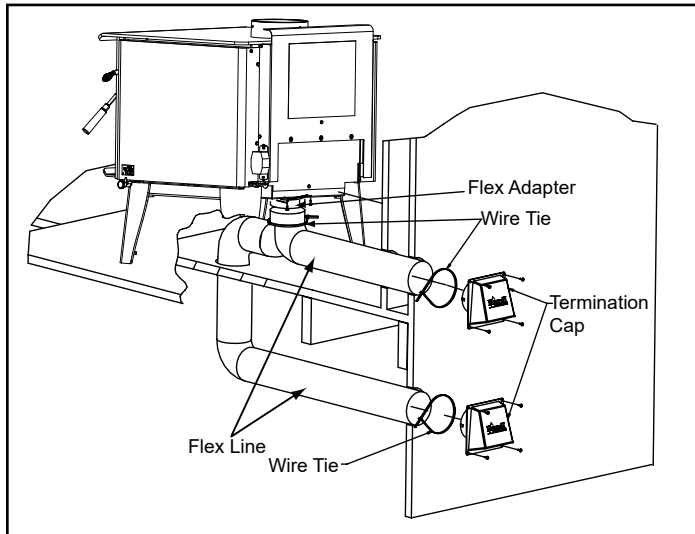

Figure 16.1 - Floor & Rear Installation
2. Using a #2 Phillips screw driver attach the flex adapter to the appliance using 4 screws (**Figure 16.1**).